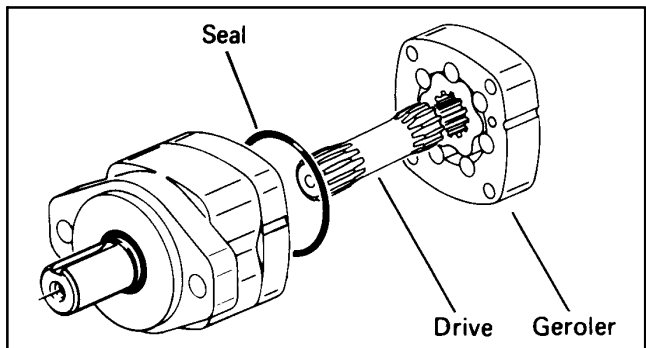

Figure 77
15. Remove the 3[76] diameter seal from wear plate, see Fig. 77.